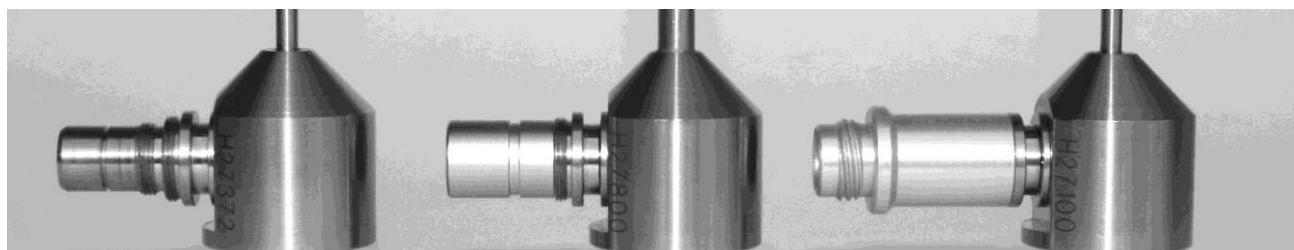

Figure 8. Standard Light Guide Post (left), with Wolf Adapter (center), with Storz Adapter (right)
**NOTE:** The endoscope may have included adapters that are supplied attached to the light post prior to shipping. If using ACMI or UNIV, unthread any adapters prior to attaching the HLS. (see Figure 8)
**Note:** The standard light guide post consists of a snap-ring groove for an ACMI fitting connection, a Wolf adapter thread, and a Storz adapter thread. The HLS attaches to the Storz adapter thread if marked “UNIVERSAL” or the ACMI if marked “ACMI”. If an adapter sleeve (see Figure 8 below) is installed on the light guidepost, it must be removed prior to connecting an HLS with ACMI or UNIV. Unscrew the adapter sleeve to remove it if it is present. If the HLS is equipped with the Wolf Scope Adapter, it will fit the wolf style light post(center). If equipped with a STORZ Adapter, it will fit the scope sleeve shown on the right.